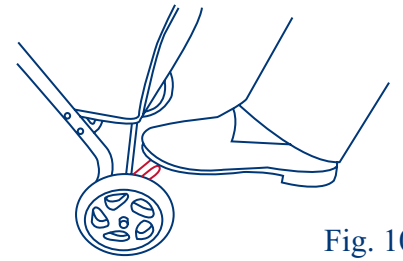
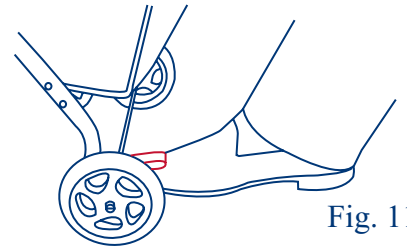

Fig. 10
Fig. 11
- * To engage brakes, apply light downward pressure to the brake lever located on each rear wheel. See figure 10. The stroller may require slight forward or rearward movement in order to line up the teeth on the brake with each wheel brake cluster. Check that the stroller will not move and that the brakes are properly applied. To release, gently lift up on the brake lever. See figure 11.